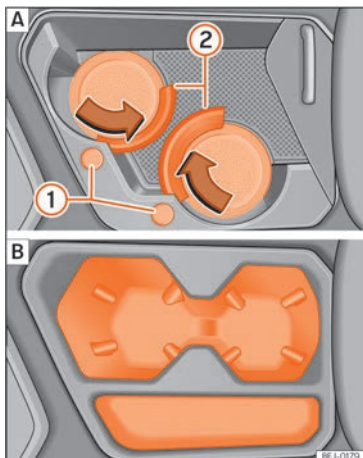

Fig. 178 In the front part of the centre console:
Depending on the equipment, there are two drink holders in the front part of the centre console >>> **Fig. 178**.
To adapt the drink holder to the size of the container, press the corresponding button >>> **Fig. 178** ①. The securing ring ② opens.
Use: Lower the central armrest >>> **Fig. 178**.